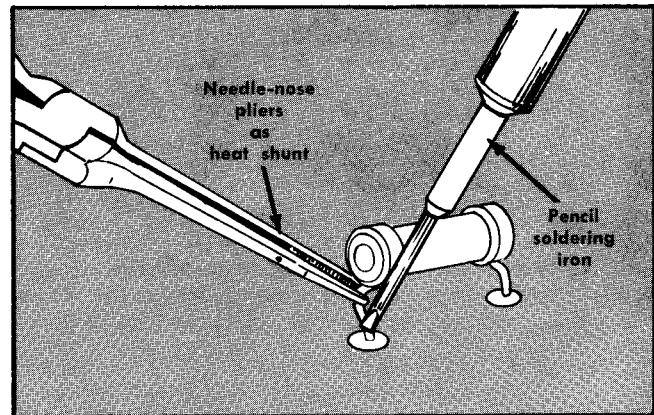

Fig. 5-2. Apply the soldering iron to the heat-shunted lead when removing a component from a circuit card.
**Replacement of other soldered-in components.** Grip the component lead with long-nose pliers. Touch the soldering iron to the lead at the solder connection. Do not lay the iron directly on the board, as it may damage the board. Refer to Fig. 5-2.